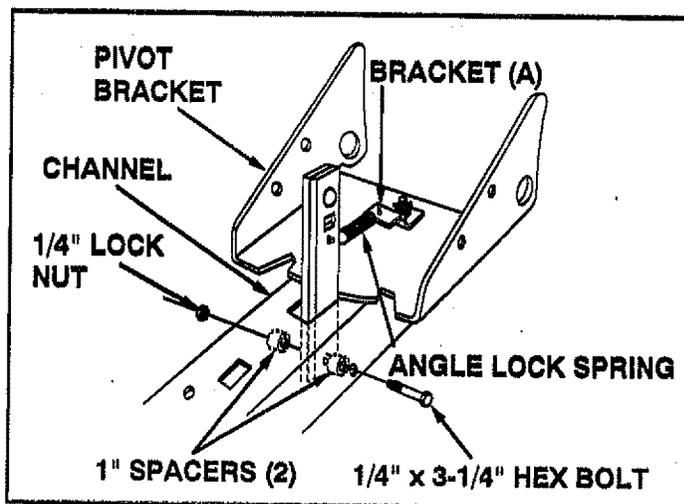

FIGURE 19 (Right Hand Side View)
- Pull on angle lock bars to extend spring just enough to allow insertion of bars down through slot in channel and pivot bracket. Using a 1/4" x 3-1/4" bolt, two 1" long spacers underneath the channel on both sides of the angle lock bars and insert the bolt through holes in sides of the channel and through the angle lock bars and the two spacers. Assemble the lock nut to the bolt on outside of channel. Tighten so that lock bars pivot freely. See figure 19.